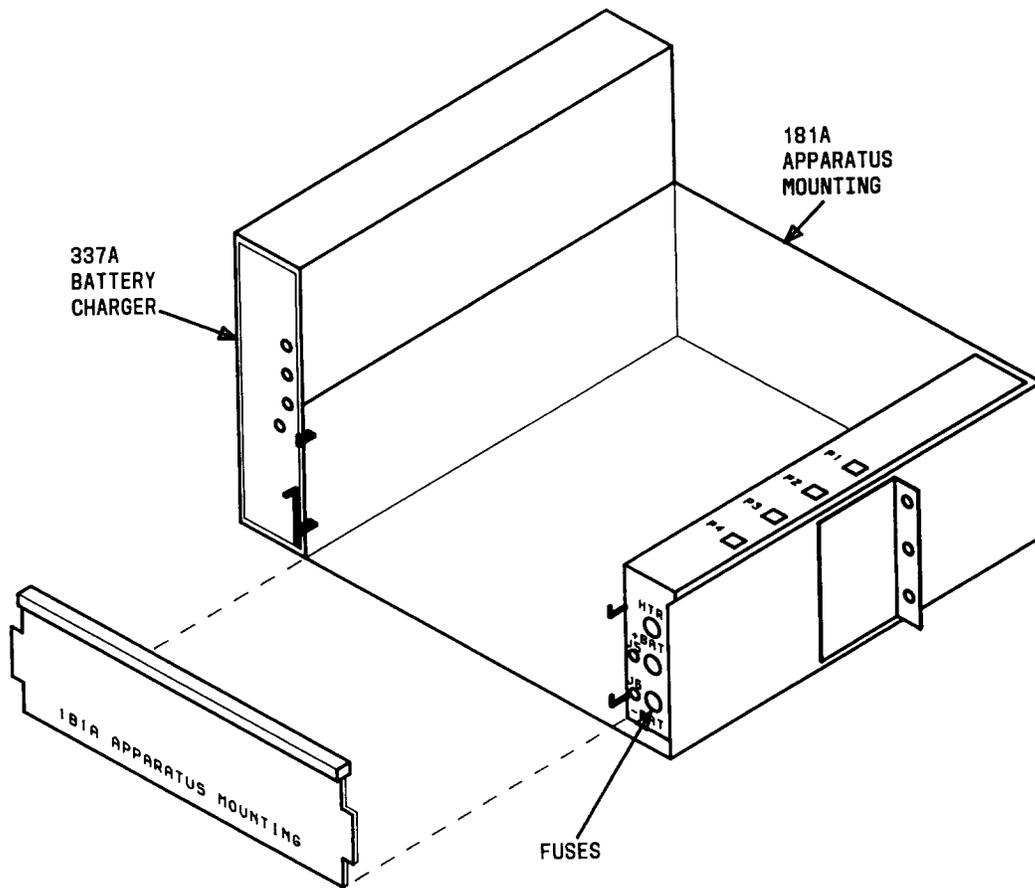

Fig. 2—Battery Shelf
21. At front of battery shelf, remove front cover by lifting cover up and out (Figure 2).